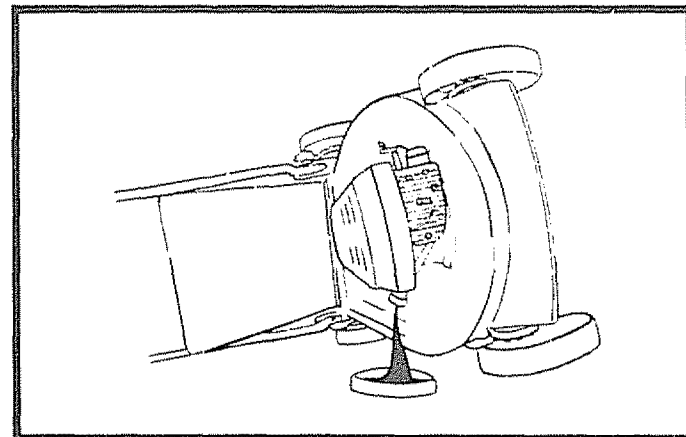

FIG. 21
- Tip lawn mower on its side as shown in Fig. 21 and drain oil into suitable container. Rock lawn mower back and forth to remove any oil trapped inside of engine.